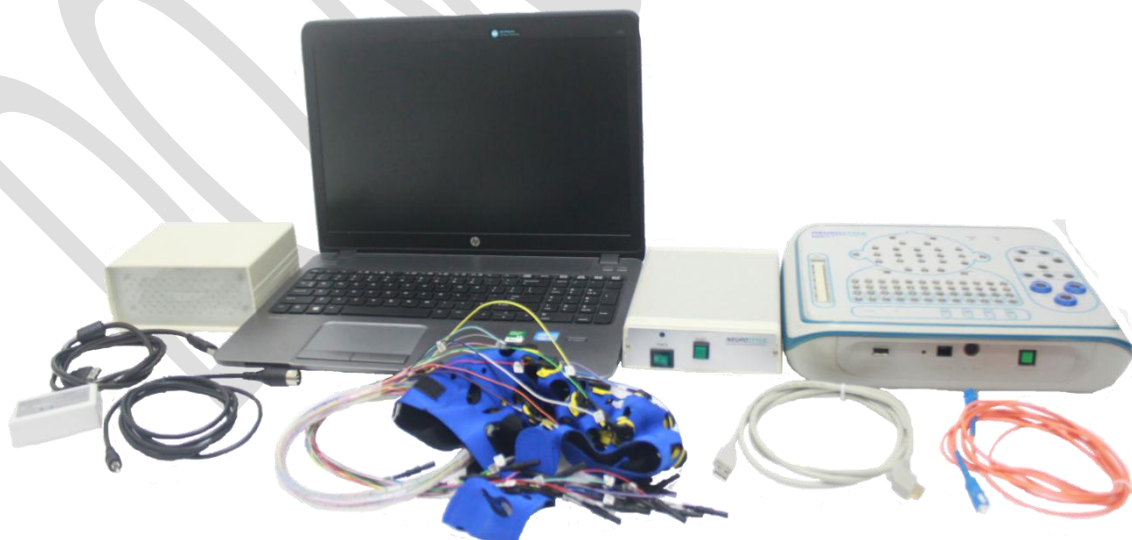

Fig 1-11 Standard EEG System parts (with Flash Stimulation Lamp)
3. Area 3 is for PSG related functions, as displayed in Fig 1-5. Fig 1-6 to Fig 1-11 are the connection cables for the respective PSG channels (**Operation details in Chapter IV, Section C**).